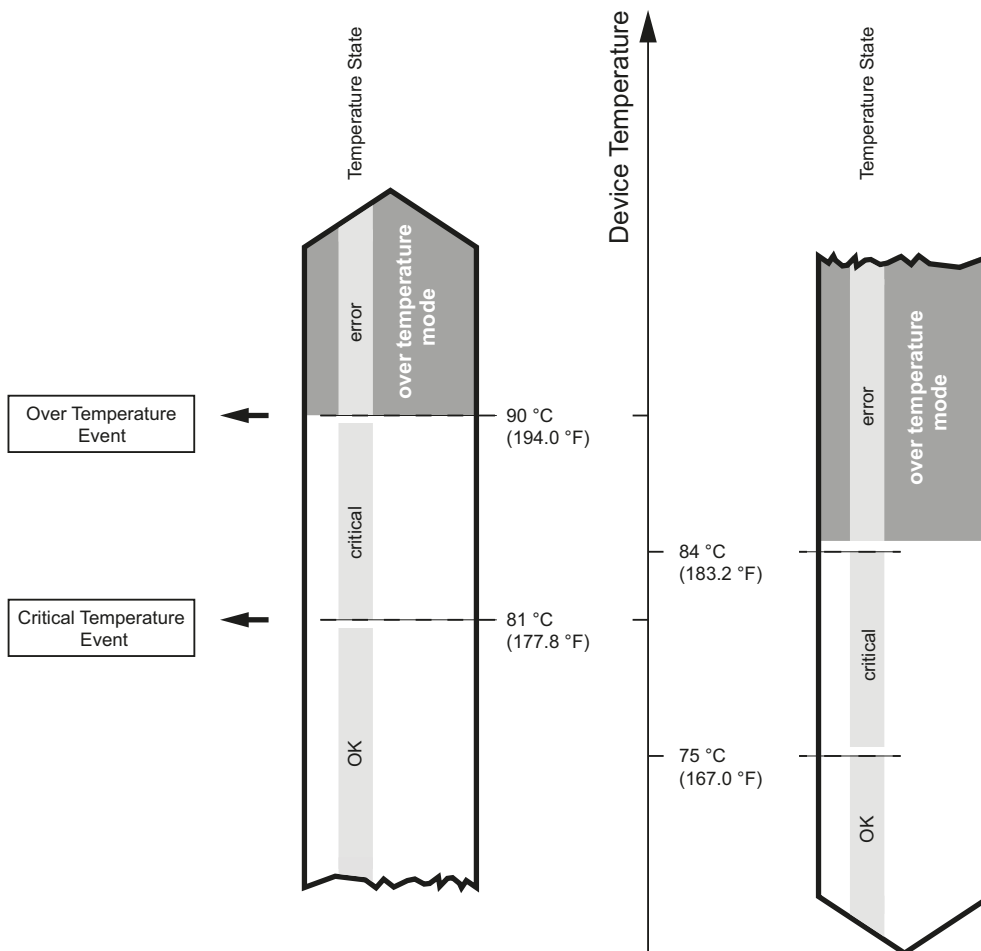

Fig. 32: Over Temperature Behavior and Related Mechanisms According to Heating and Cooling Paths.
The mechanisms are activated at different internal temperatures, depending on whether the camera follows a heating or cooling path. The mechanisms are illustrated for both paths in Figure 32 and are described in detail below.
- The parameter values for the TemperatureState parameter can be Normal, Critical, and Error. For information about their meanings, see Figure 32 and the related descriptions.